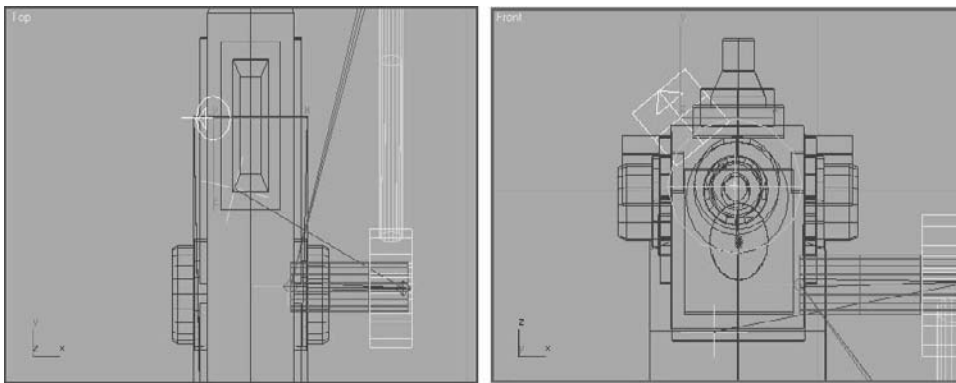

Figure 12.15
6. Create a second Super Spray particle system and place it on the right side of the gun body. Orient the emitter so that the particles are ejected upward and away from the gun, as shown in Figure 12.15. In the figure, the target and its supports have been hidden for clarity.